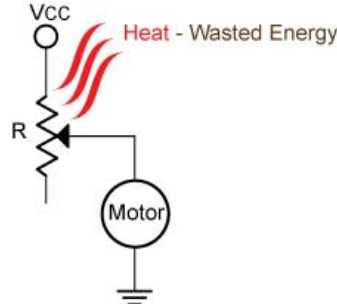

Figure 2: Motor Control Using a Rheostat (NOT Recommended)
- One difficulty with this method is that the voltage drop across the resistor represents energy lost in the form of heat which is a waste of valuable energy, especially from a battery power source (Figure 2).